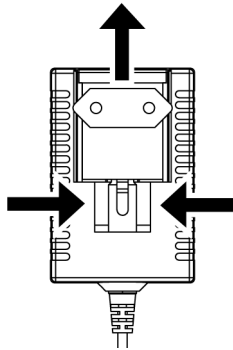

Fig. 8 PS4: Changing the AC line plug adapter
- Slide a different AC line plug adapter into the slot (see Fig. 8).